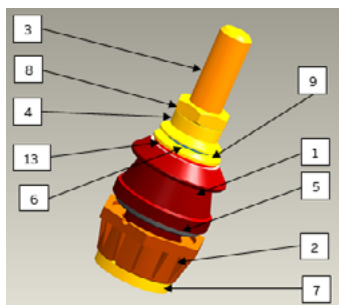
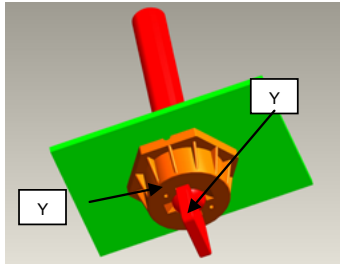

Figure 1
Figure 3
The porcelain insulator bushing (figure 1) must be installed using the following steps:
- Make a hole on the tank of the transformer using the diameters in table 18. If the porcelain bushing is provided already assembled, Unscrew the nut (component n. 8 in figure 1) and then slip off the porcelain (1) with the assembled gasket (5) and the metal part and gaskets in air: 10,6,9,4 (figure 1).
- The bolt (3) with soldered lower washer (7) must be installed as pictures in picture 1 (the lower insulation (2) ensemble with the bolt), through the hole on the tank
- If the insulator bushing correspond to solution "B" the bolt plate Y has to be place in the plate housing X (figure 3)
- Assemble the components: (5), (1), (10), (6), (9), (4), (8) and once the insulator bushing is full of oil, the air inside must be removed unscrewing the nut (8) and finally the rated torque shall be applied to the upper nut (see table 18).